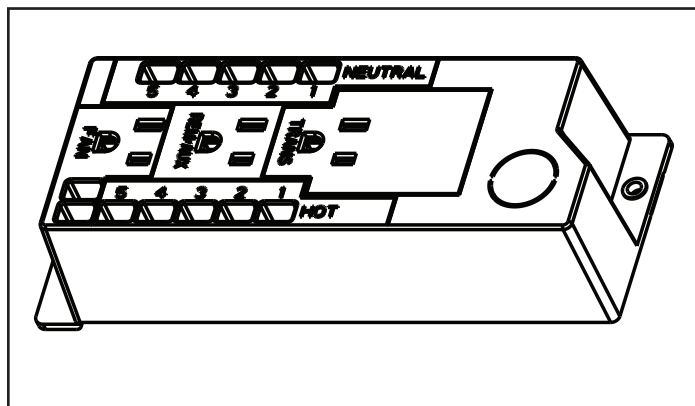

Figure 5.2. Junction Box
- Disassemble junction box. See Figure 5.2.